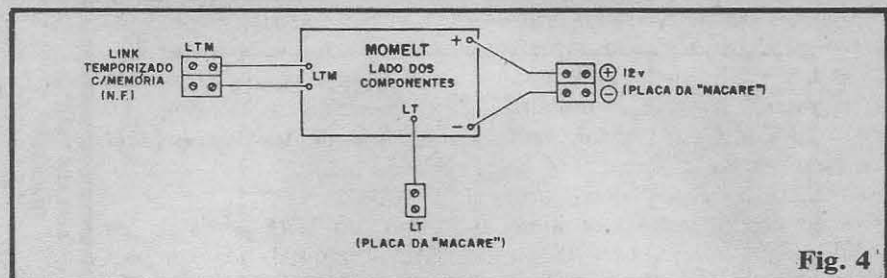

Fig. 4
- **FIG. 4** - Conexões (simples) ex-